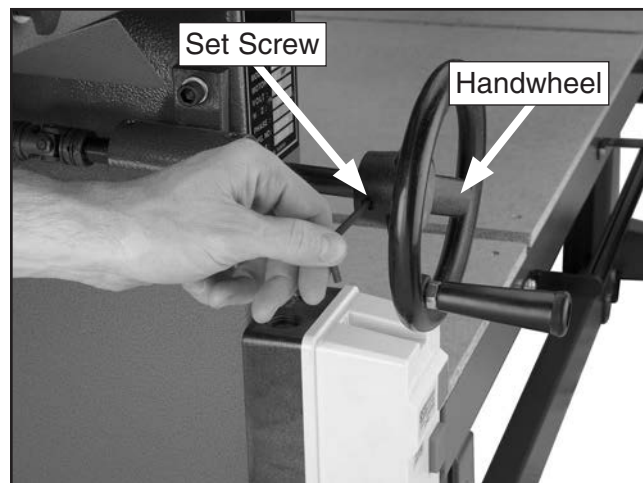

Figure 24. Handwheel placement.
19. Attach the elevation handwheel by aligning the flat portion of the shaft with the set screw on the handwheel, then sliding the handwheel over the shaft and tightening the set screw (**Figure 24**).